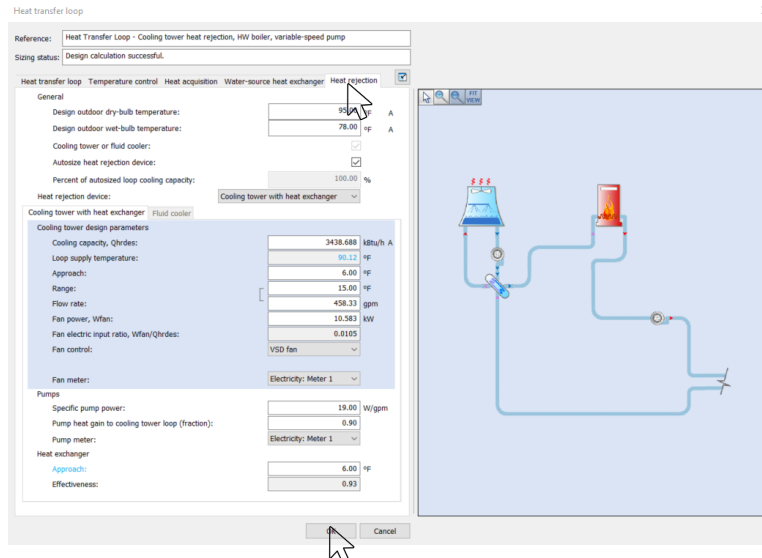

Figure 15: Heat Transfer Loop Window – Heat Rejection
2. Double click the cooling tower icon in the diagram to open the “Heat transfer loop” window as shown in Figure 15. Please set the parameters according to design conditions.